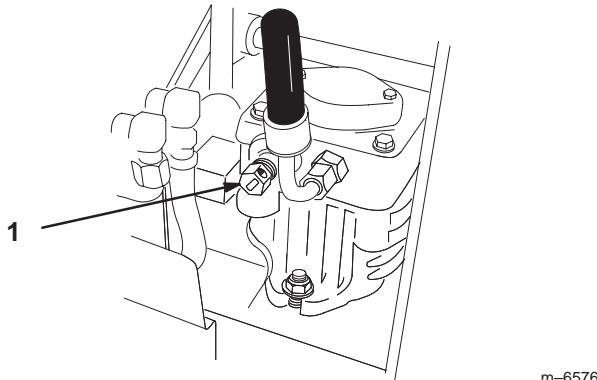

Figure 21
3. Open the by-pass valves, by turning them counter clockwise 1 to 2 turns, to push the machine. This allows hydraulic fluid to by-pass the pump and the wheels to turn (Fig. 21).